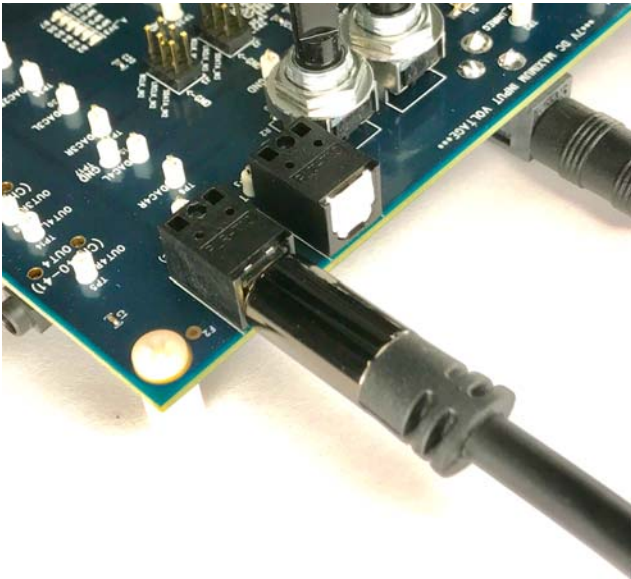

Figure 33. Photograph of the Optical S/PDIF Input Connection
1. Connect an S/PDIF source to the EVAL-ADAU1466Z evaluation board by using a standard TOSLINK® optical cable and connecting it to the S/PDIF receiver connector, U2 (see Figure 33).